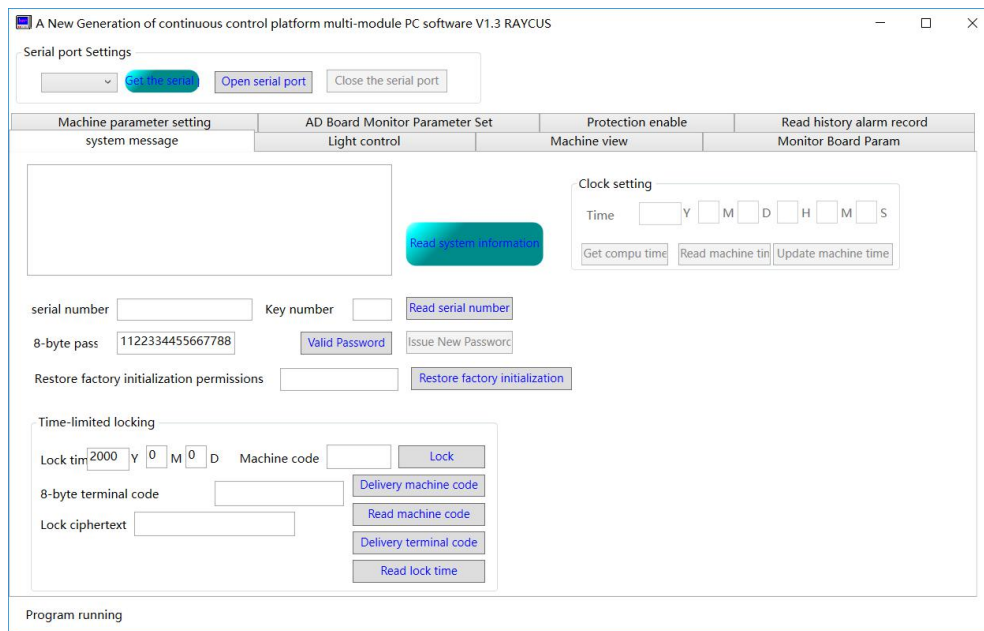

Figure 16 Inteface 1 of the RAYCUS laser client control software.
- (1) The power wiring and control wiring are connected correctly, and the voltage meets product requirements.
- (2) Ensure the laser emission button on the front panel is released and the level of sixth pin “LAS\_C” of “INTERFACE” port on the rear panel is low.
- (3) Status of Interlock is correct..
- (4) Make sure that the water cooling system is connected. The water cooler starts to work, and the temperature of the water is at the proper working temperature (about 25°C). Check whether there is any leakage issues within entire water cooling system and the joints.
- (5) Turn the key to “ON” position, and power on the laser, then the green LED will illumine. Double click the RAYCUS laser client control software, then the following interface can be seen in Figure 16.